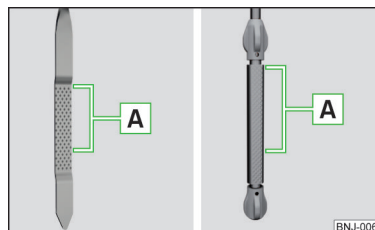

Fig. 168
Dipstick » Fig. 168
- The oil level must never be above the range A » Fig. 168 - risk of damage to the motor as well as the exhaust system.